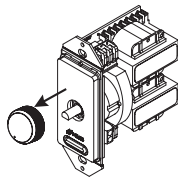

Figure 1
2. Pull the knob off the shaft. See **Figure 1**
- 5. Locate the new knob. Align its flat side to the flat side of the shaft, and push the knob onto the shaft. Holding the unit as shown in **Figure 1**, check the alignment of the knob by turning it through all positions.*